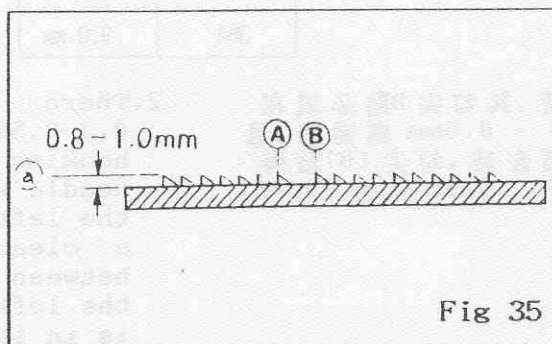

Fig 35
1. The height of Main Feed Dog is 0.8 - 1.2mm when it is in the highest position. (Fig 35)